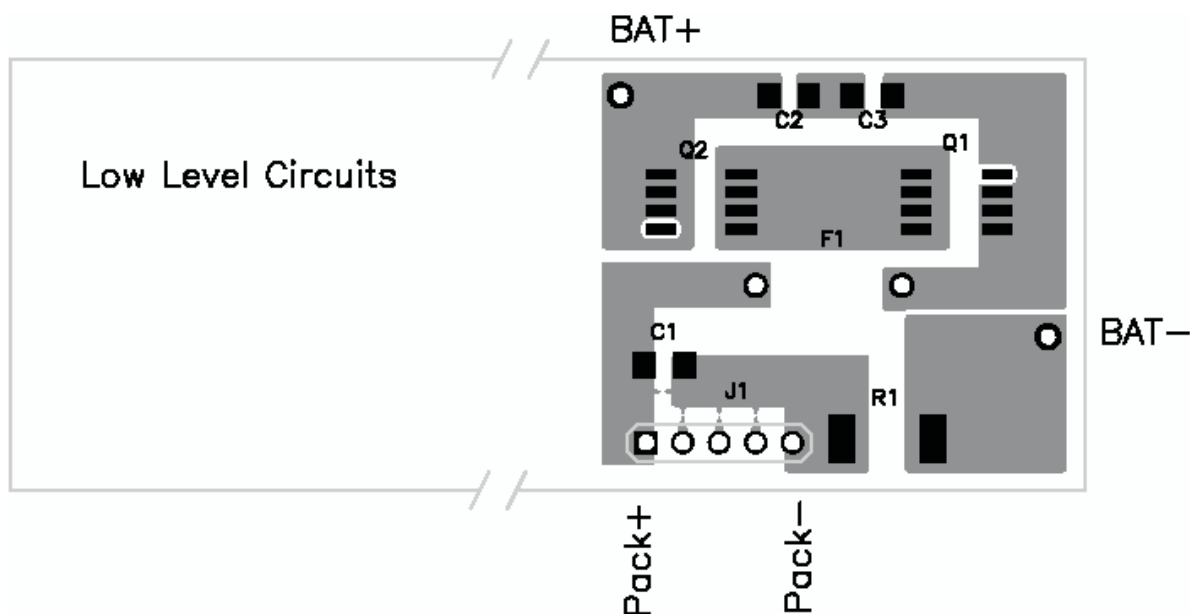

Figure 3. Use Wide Copper Traces to Lower the Inductance of Bypass Capacitors C1, C2, C3.
17.2.114.9 Protector FET Bypass and Pack Terminal Bypass Capacitors The general principle is to use wide copper traces to lower the inductance of the bypass capacitor circuit. In Figure 3, an example layout demonstrates this technique.
A battery fuel gauge circuit board is a challenging environment due to the fundamental incompatibility of high current traces and ultralow current semiconductor devices. The best way to protect against unwanted trace to trace coupling is with a component placement such as that shown in Figure 3, where the high current section is on the right and electronics devices on the left. This is not possible in many situations due to mechanical constraints. Still, every attempt should be made to route high current traces away from signal traces, which enter the bq20z80 directly. ICs can be damaged due to magnetic and capacitive coupling from the high current path. Note that during current and ESD events, the high current traces appear inductive due to the fast current rise time